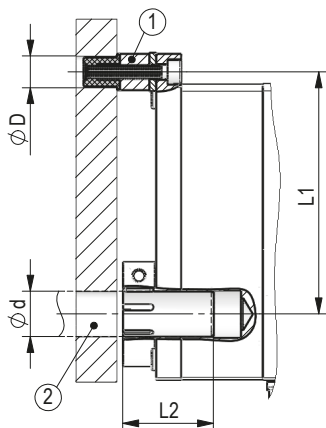
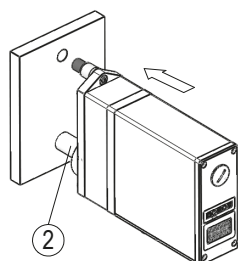
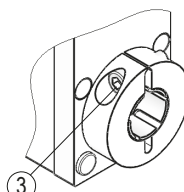
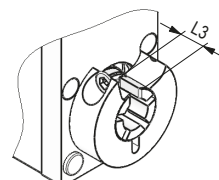

Fig. 1: Mounting dimensions
Fig. 2: Mounting
Fig. 3: Fastening torque for screws
Fig. 4: Shaft for feather key
- ▶ Ensure a low shaft and angle offset between shaft and accommodation bore by applying appropriate manufacturing methods (see Fig. 1 + Tab. 1).
Preparing mounting (Fig. 1, Fig. 2, Fig. 3, Fig. 4):
Mounting (Fig. 1, Fig. 2, Fig. 3, Fig. 4):